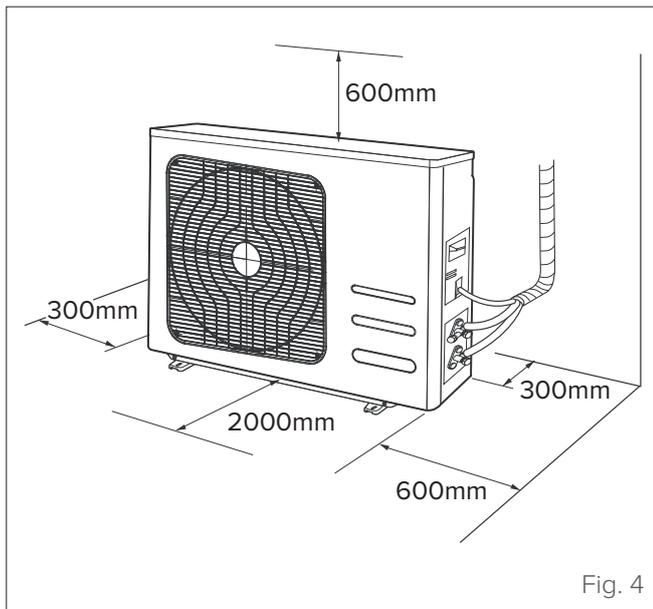

Fig. 4
- the space available for installation must meet the requirements indicated (see “Fig. 4”)